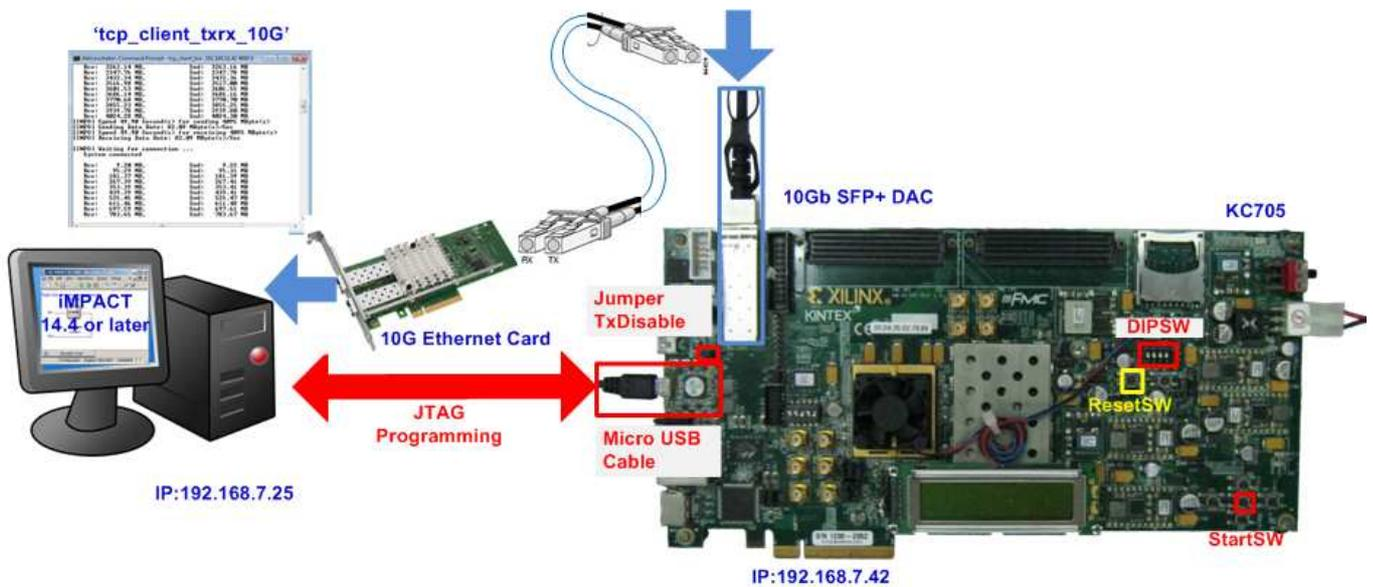
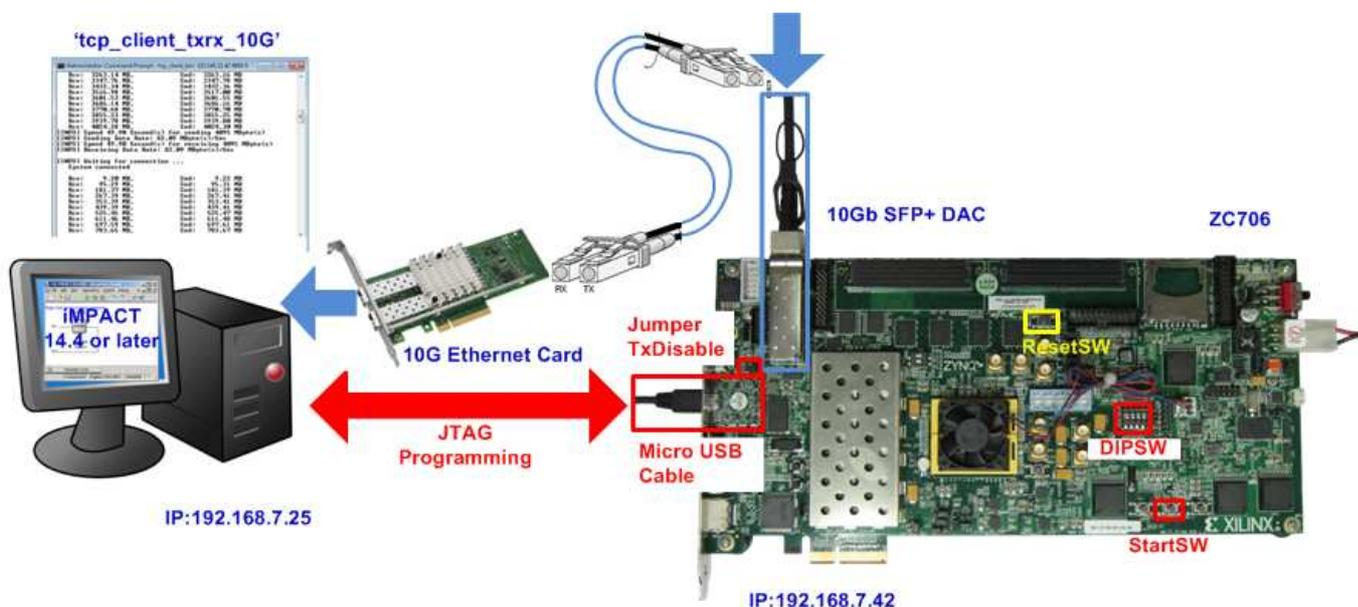

Figure 1 TOE10G-IP Full Duplex Demo Environment Setup on KC705
Figure 3 TOE10G-IP Full Duplex Demo Environment Setup on ZC706
As shown in Figure 1 - Figure 3, to run TOE10G-IP full duplex demo, please prepare
- Press StartSW at Center-SW as shown in Figure 1 - Figure 3 to initialize parameter in system, and then LED0 will turn on, as shown in Figure 8. Now system is ready to transfer data.